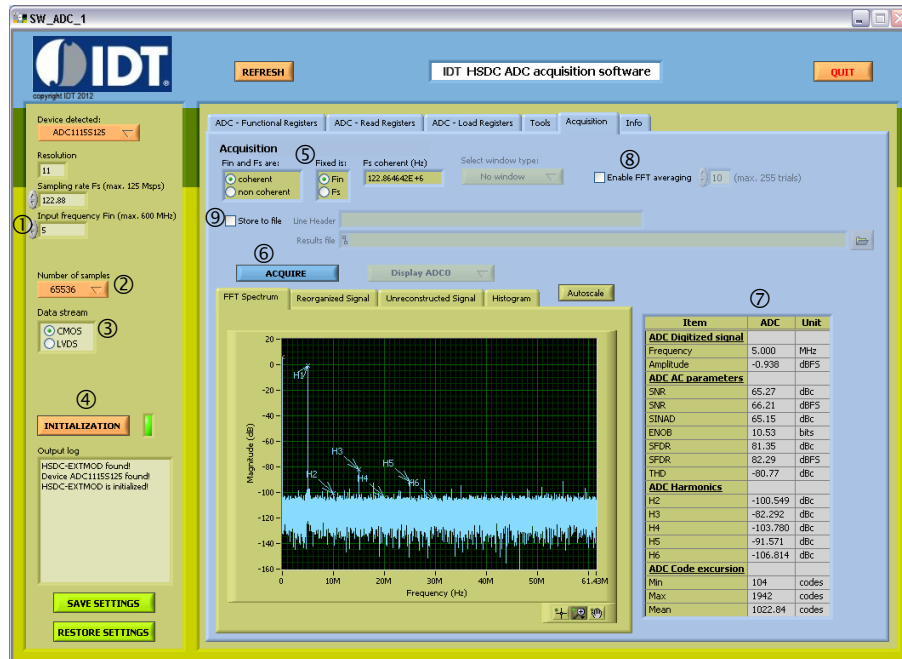

Fig 13. SW_ADC_1_r02: "Acquisition" page
- Browse to select your file (button ①);
- Click on “Load data” button ②.
A message on field ③ and a progress bar will inform about the status of the operation until message “download done!” is seen. The table ④ is updated with the current values downloaded at the fly as can be seen on figure 13.